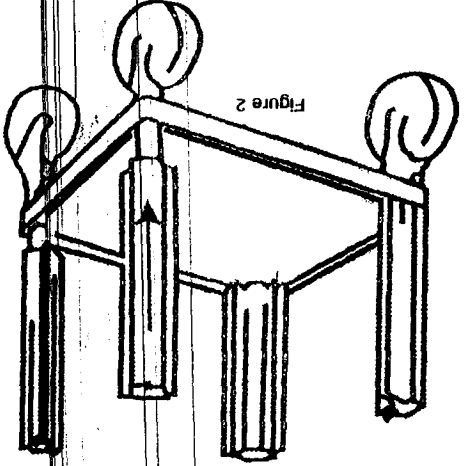

Figure 2
STEP 2: Place the four fluted legs over the corner posts so that the channels face each other. The legs have notches on both ends. The end with the shorter notch should be placed over the bosses on the lower shelf. Use a rubber mallet* to tap legs into place. Make sure that legs are even and fully seated. (FIGURE 2)